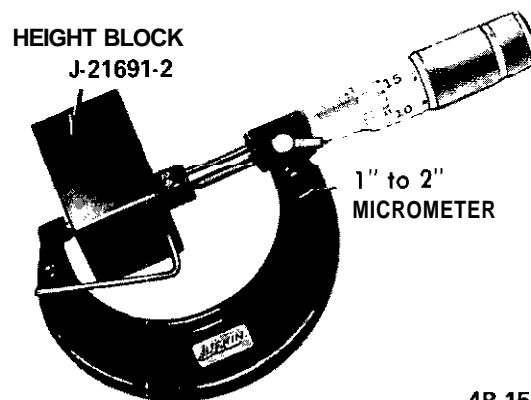

Figure 4B-15 Measuring Adjustable Height Block
(2) The control figure (on face of pinion) is shown in Figure 4B-16.